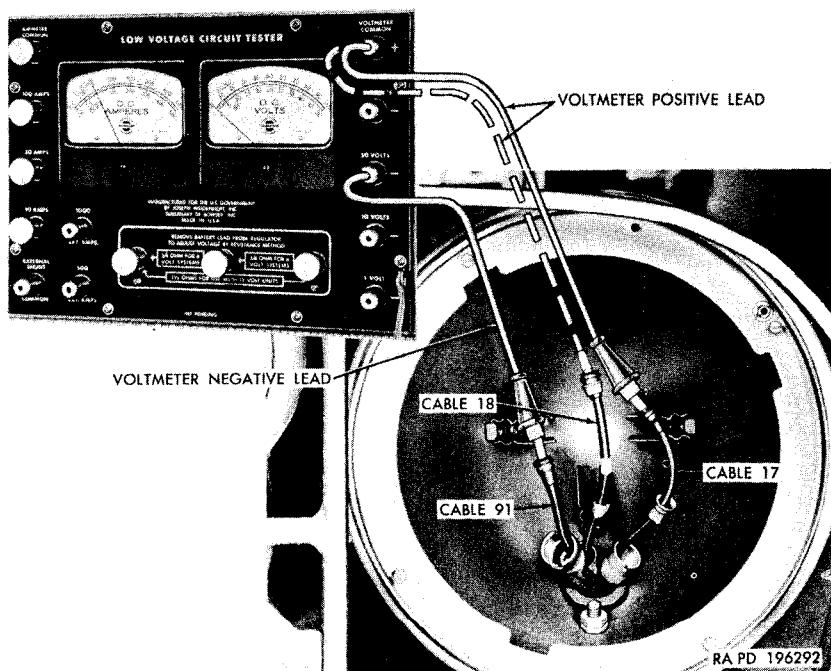

Figure 59. Checking for current to headlight.
- (a) Disconnect cable (11) from the light switch circuit breaker.
- (c) Connect the voltmeter positive (+) test lead to the voltmeter positive (+) terminal of the tester and touch the clip end of the lead to the terminal of cable (11).
- (1) *Lamp units faulty.* Check for current to the lamp units, using the low voltage circuit tester (fig. 59). Circuits to both headlights are checked in the same manner.
- (b) Connect the voltmeter positive (+) test lead to the positive (+) terminal of the tester and attach the clip end of the lead to the terminal of cable (17) (high beam) in the headlight body.
- (c) Connect the voltmeter negative (−) test lead to the 50 VOLTS terminal of the tester and attach the clip end of the lead to the terminal of cable (91) (ground) in the headlight body.
- (e) Check the circuit for low beam in the same manner, attaching the voltmeter positive (+) test lead to cable (18).
- (f) If the voltmeter reading is normal for both high and low beam circuits, replace the lamp unit. If no voltage reading is indicated in either high or low beam circuit, check for current through the circuit breaker and light switch (b(2) above), and the dimmer switch ((2) below).